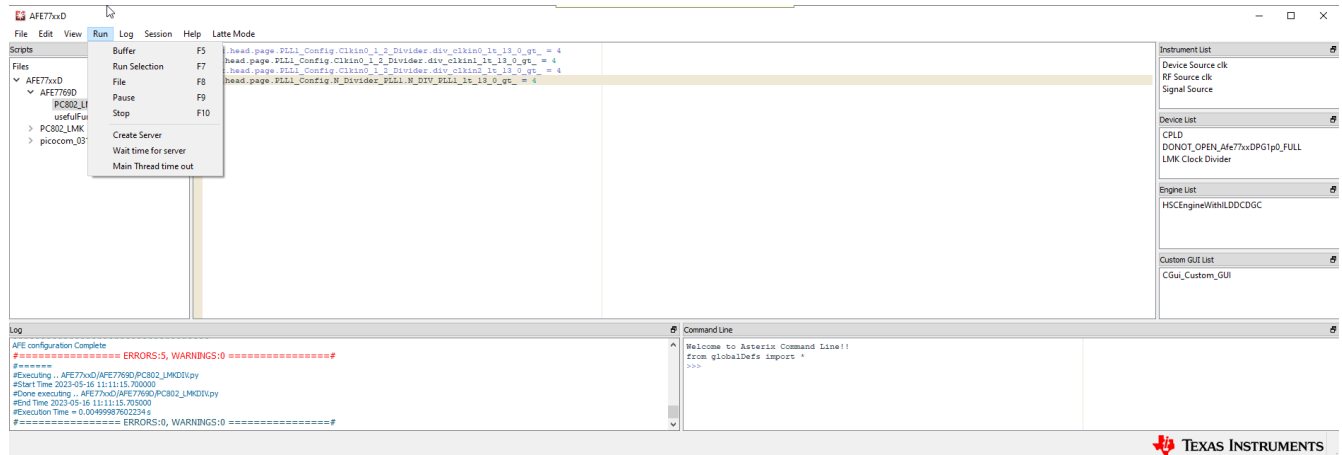

Figure 3-15. Running the LMK Script
- Run the script by pressing F5 or by clicking Run > Buffer. An output in the log window like Figure 3-15 signals that the script was run with no errors. After running this script, the LMK_LOCKED LED (D11) turns on if the 122.88MHz reference from the RNS802 is connected.